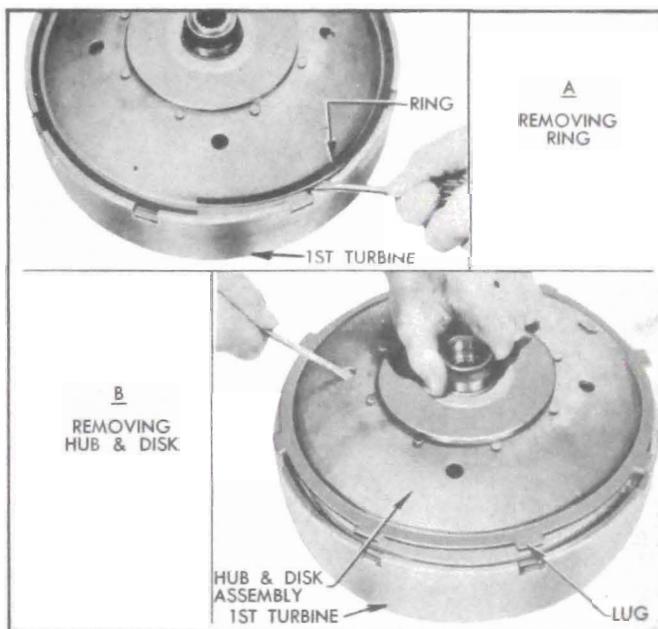

Figure 5-40—Removing Disk and Hub Assembly
1. Pry retaining ring out of groove in first turbine, insert screwdriver in a hole in the disk and lift disk and hub assembly out of first turbine. See figure 5-40.
8. Place second turbine and carrier assembly in first turbine, then install the first turbine disk and hub assembly over the second turbine. See figure 5-40, view B.